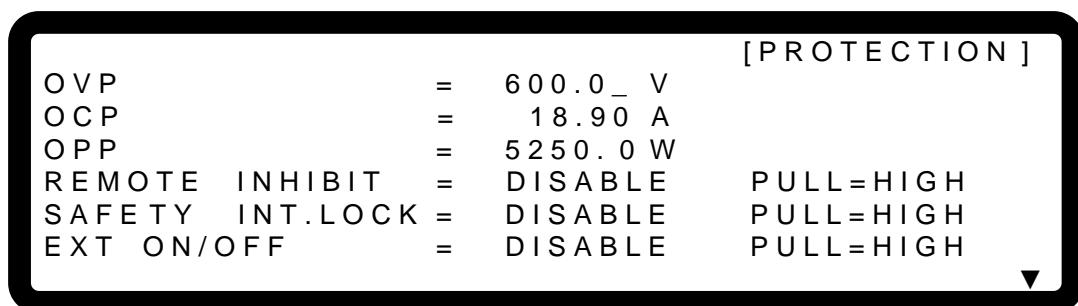

Figure 3-68
2. Press “**5**” then “**ENTER**” to enter into the PROTECTION selection page as shown in Figure 3-68.